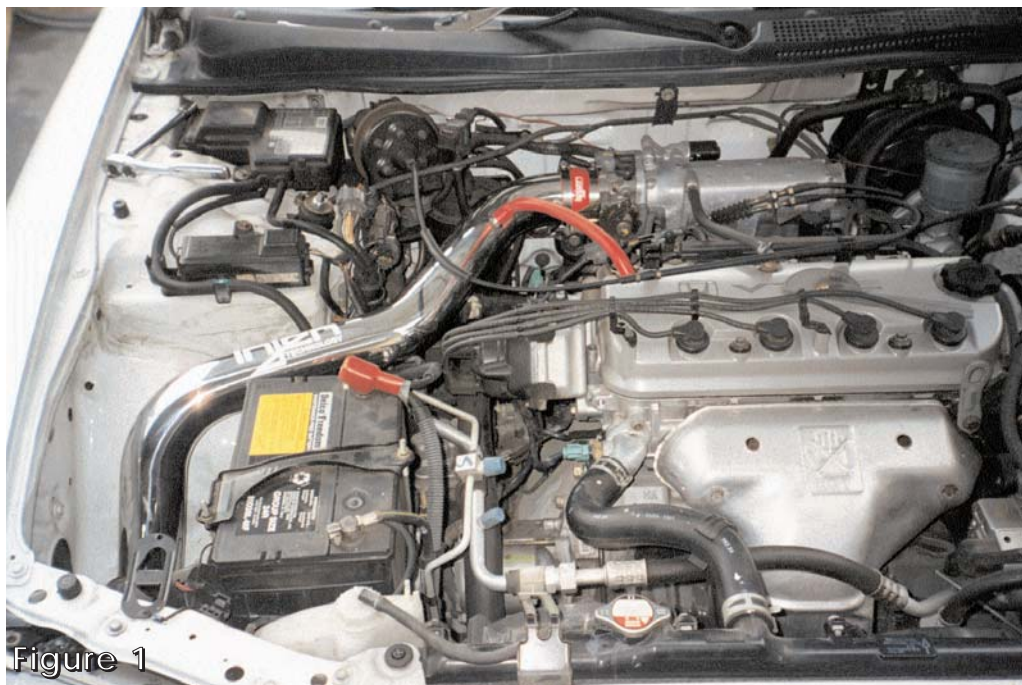

Figure 1
- 9 **All non Ex-models** will require only the connection of the 10"-10mm vacuum hose to the valve cover port and the 1/2" nipple on the cold air intake. (See fig. 1)